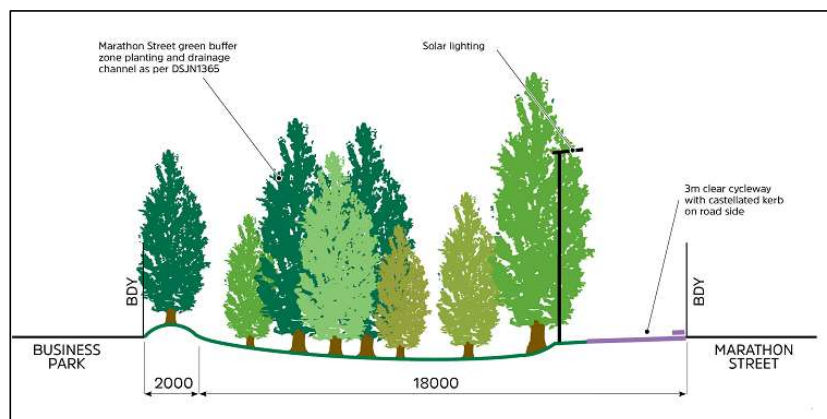

Figure 4: Marathon Street Landscape Buffer
- A vegetated screening buffer of at least 20 metres wide is to be established for the length of Marathon Street on the eastern boundary of the site, as per the TGGP Precinct Plan and the Marathon Street Landscape Buffer cross section plan (Figure 4).